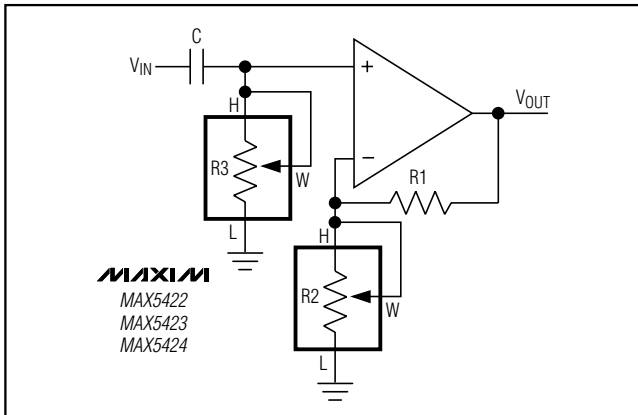

Figure 5. Programmable Filter
Figure 5 shows the configuration for a 1st-order programmable filter. The gain of the filter is adjusted by R2, and the cutoff frequency is adjusted by R3. Use the following equations to calculate the DC gain (G) and the 3dB cutoff frequency (fC):